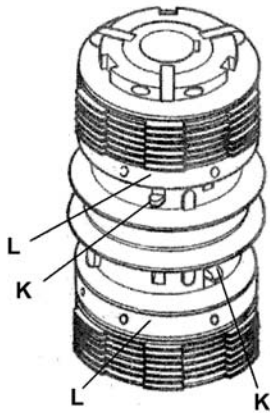

Figure 19: Clutch adjustment
4. Push out upper key (K, Figure 19), and turn collar (L) right or left until key returns to notch.